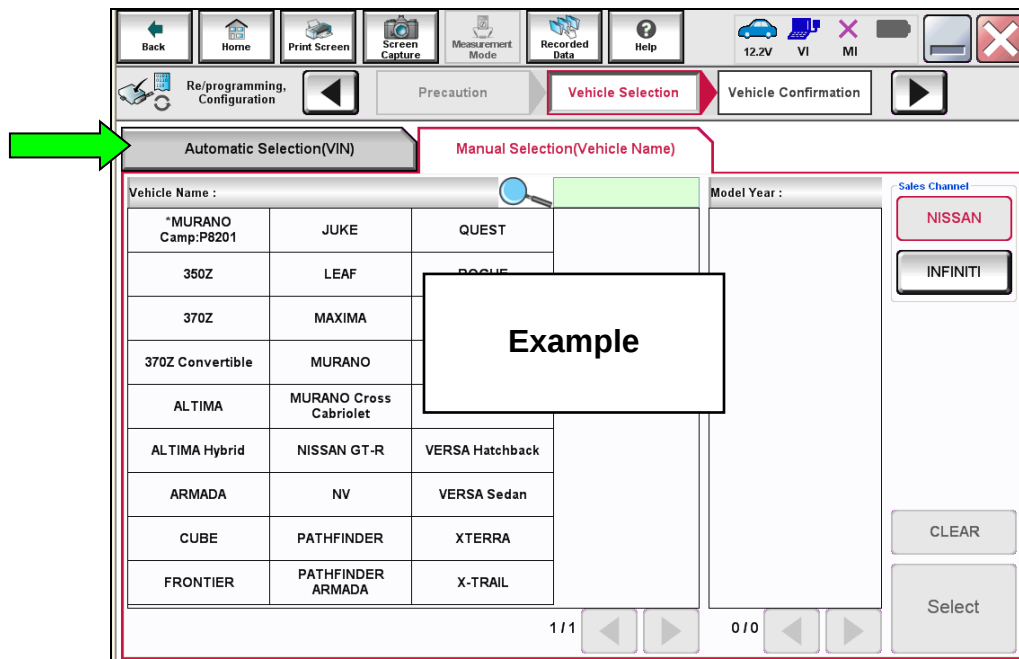

Figure 4
- If the screen in Figure 4 does not display, skip to step 20.